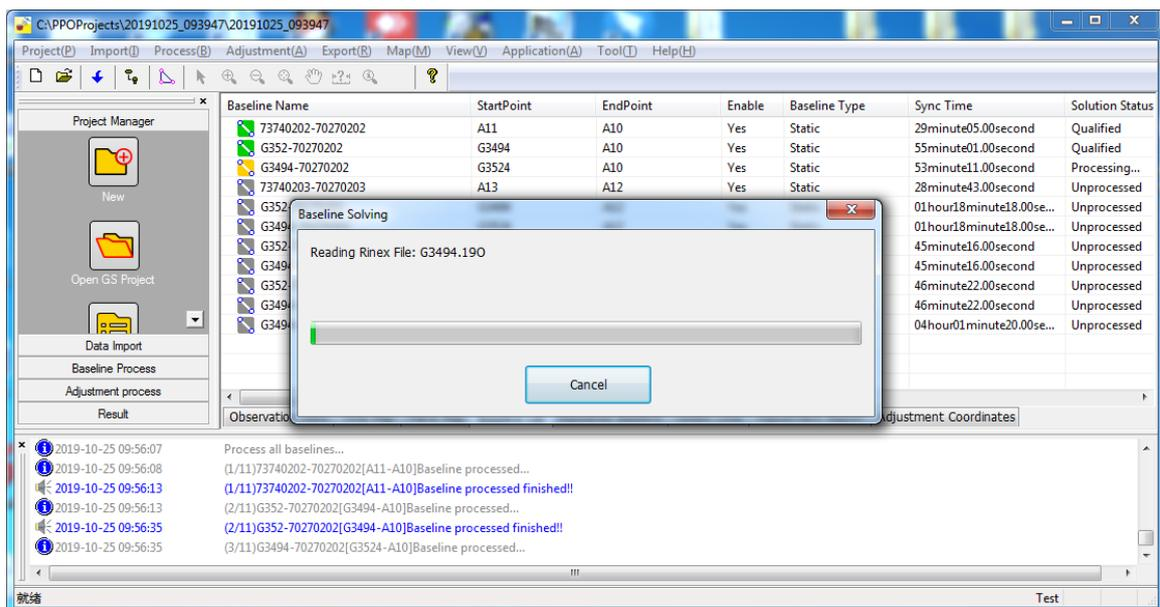
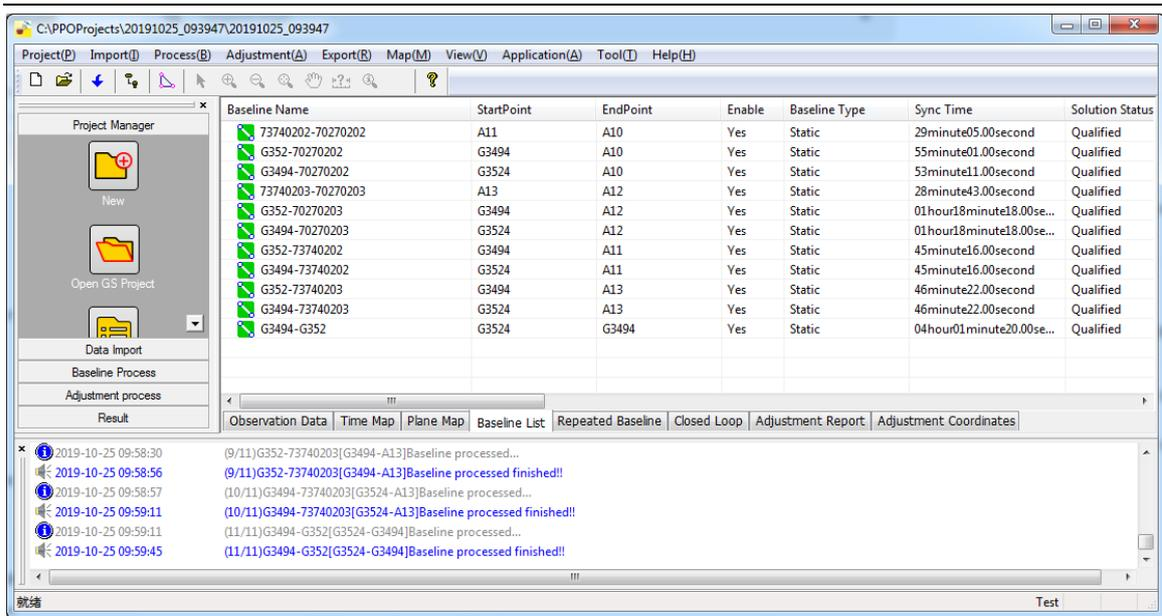

Figure 2-6
Figure 2-7
a. Click [Process] - [Process all baselines] to process all the baselines as shown in Figure 2-6. When the Figure 2-7 appears, it means process complete. green refers to baselines that succeed to process, while red refers to those failed.